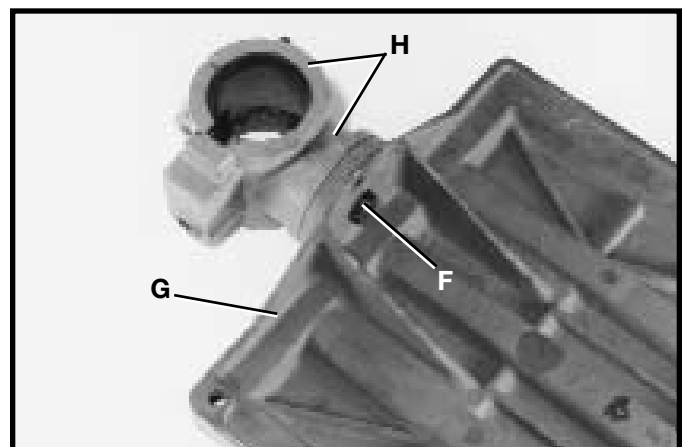

Fig. 3
2. Remove bolt (F) Fig. 3, and remove table (G) from table bracket (H).